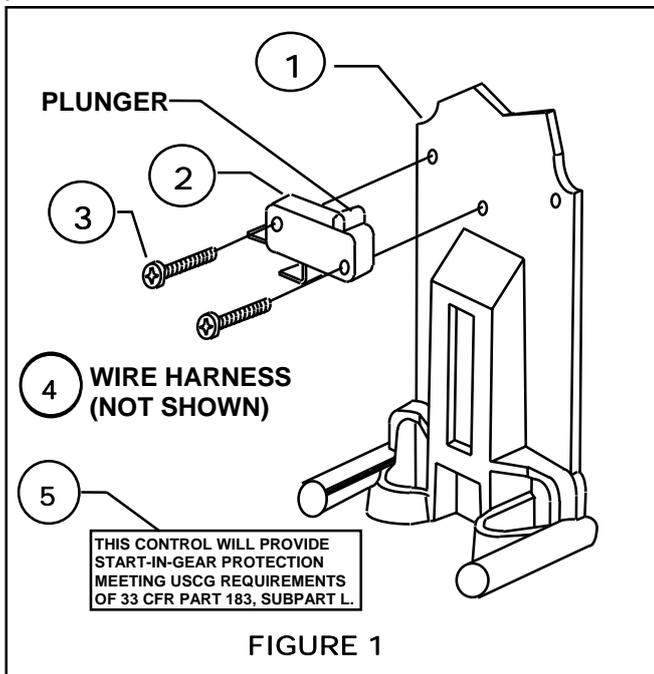
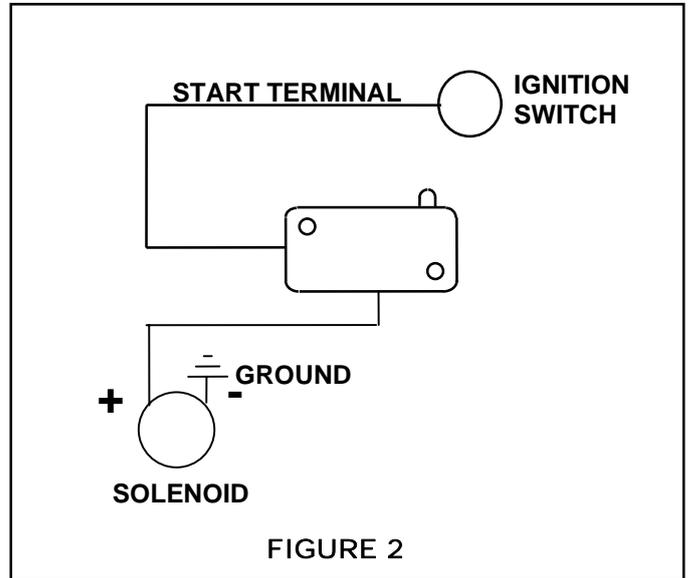

FIGURE 1
FIGURE 2
Place the switch (item 1) on the control as shown in Figure 1 so that the plunger contacts the stamped metal cam of the control while the control is in the neutral position.
Route the wires so they will not in any way come in contact with the cable or moving parts of the control. If necessary, the switch can be mounted on the right side (left side mounting shown in Figure 1). Connect one wire of the switch to the "Start" terminal on the ignition switch and the other to the **positive** terminal of the starter solenoid (see Figure 2 and warning).